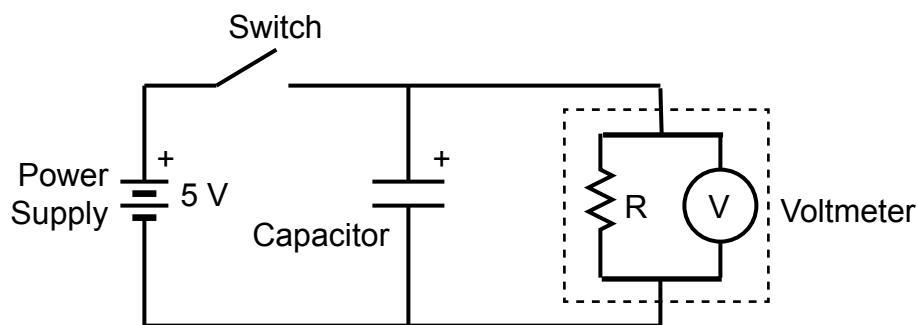

Figure 9.1. Diagram of RC circuit and power supply.
A diagram of a simple resistor-capacitor (RC) circuit appears in Figure 9.1. A power supply is used to charge the capacitor. During this process, charge is transferred from one side of the capacitor to the other. A digital multimeter set on a voltage scale behaves in a circuit like a large (in ohms) resistor. When the power supply is disconnected from the capacitor, charge “leaks” from one side of the capacitor, through this resistor, back to the other side of the capacitor, until no voltage appears across the terminals of the capacitor.
The power supply in Figure 9.1 is represented by a battery. Note that the positive output of the power supply is connected to the plate of the capacitor marked with a plus sign. The capacitors used in this experiment make use of a thin layer of dielectric material that forms by a chemical
The voltmeter in Figure 9.1 is enclosed by a dashed line. The voltage sensing circuit is represented by a circle with a “V” inside. All voltmeters have resistance, and this resistance is represented by the resistor symbol inside the box. Our goal is to measure the value of this resistance, R .
When the switch in Figure 9.1 is closed, a positive charge $Q = \Delta V \times C$, where $\Delta V = 5$ V, is on the top plate of the capacitor. According to our choice of positive direction, both Q and ΔV_C are initially negative. While negative charges and potential differences may appear to be inconvenient, they make no difference as far as the math is concerned. It is safe to choose the direction of positive current arbitrarily and work from there. With a positive negative charge on the top plate of the capacitor, a positive current I will flow through the resistor. In this case, a positive current will *decrease* the magnitude of Q , but since Q is initially negative, the corresponding dQ/dt is positive. Therefore $I = dQ/dt$. One of the handy features of Kirchhoff's loop rule is that I always equals dQ/dt if you set it up correctly. This is not always true for other approaches to circuit analysis. This relation allows us to reduce Kirchhoff's loop rule to a simple equation with one derivative.